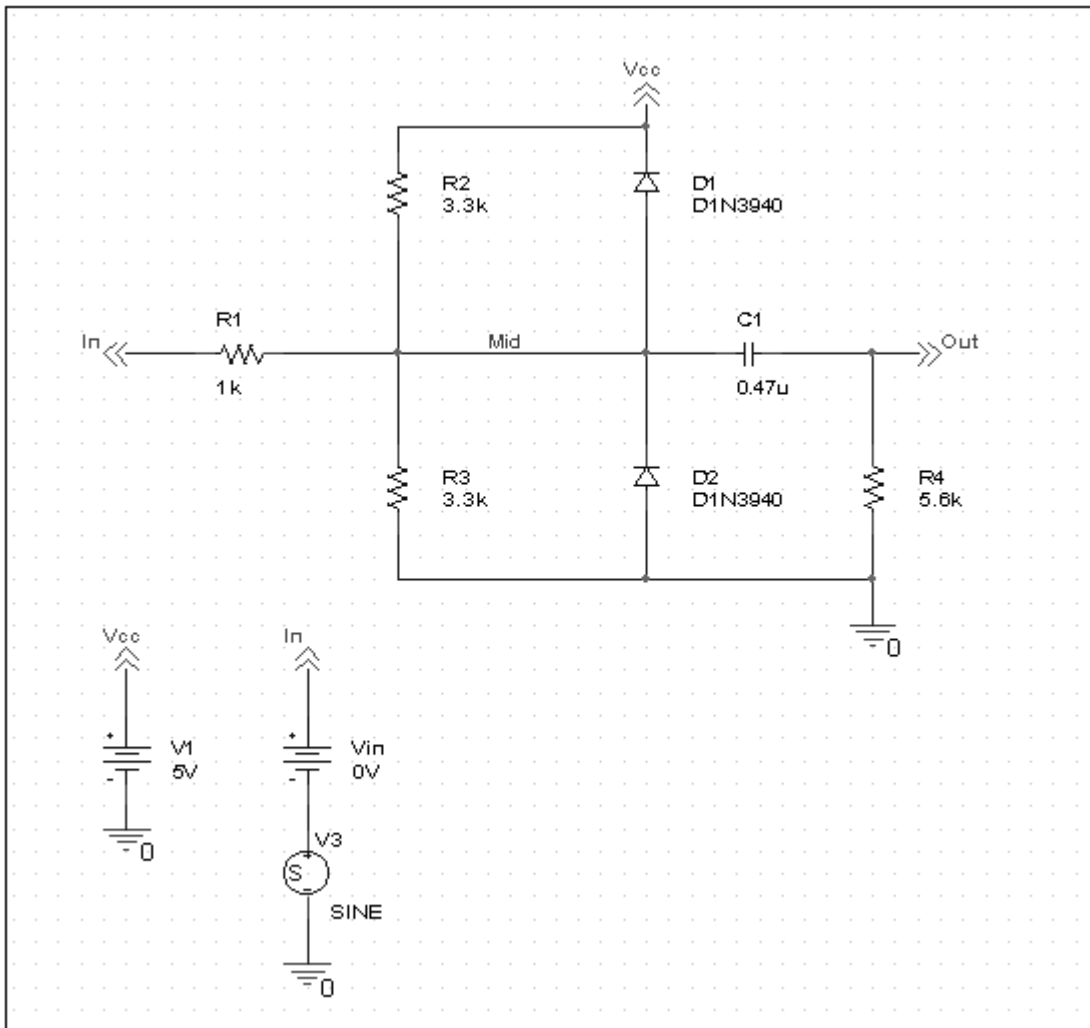
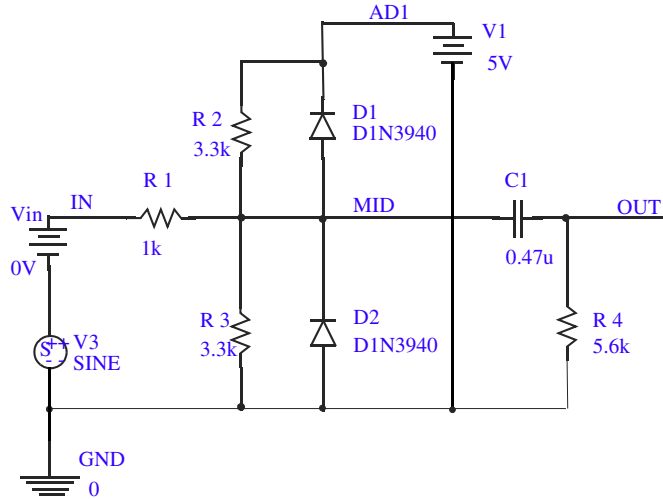

Figure 2-14 Diode clipper circuit with a voltage stimulus in .
Figure 2-15 Diode clipper design with a voltage stimulus in Design Entry HDL
The examples in this section show how to run a transient analysis on the clipper circuit. This requires adding a time-domain voltage stimulus as shown in Figure 2-14 and Figure 2-15.
5. Place a VSTIM part (from the PSpice library SOURCSTM) as shown in Figure 2-14.
7. Place the ground part under the VSTIM part as shown in Figure 2-14.
4. Place a VSTIM part (from the PSpice library SOURCSTM) as shown in Figure 2-14.